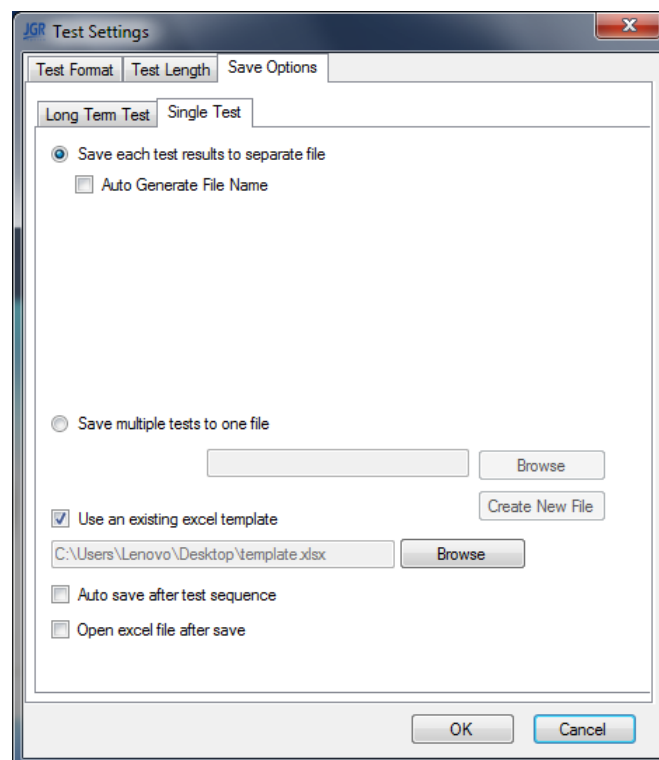

Figure 4.9: Selecting a custom template for use in a test.
- To incorporate this Excel template into future tests use the Browse function under the Excel template check-box to select the newly created Excel template (Fig. 4.9).